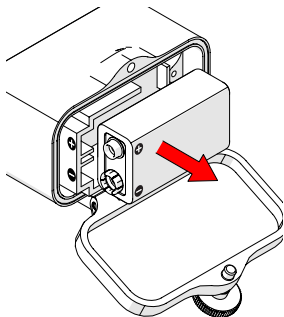

Fig. 20 - Remove the 9V battery
2. Remove the 9V battery from the battery compartment and dispose of it according to local regulations (Fig. 20).